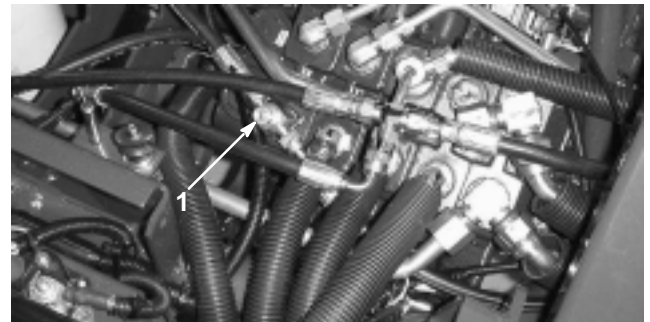

Figure 48
1. Raise the seat and locate the flow control valve mounted to the main control valve (Fig. 48).